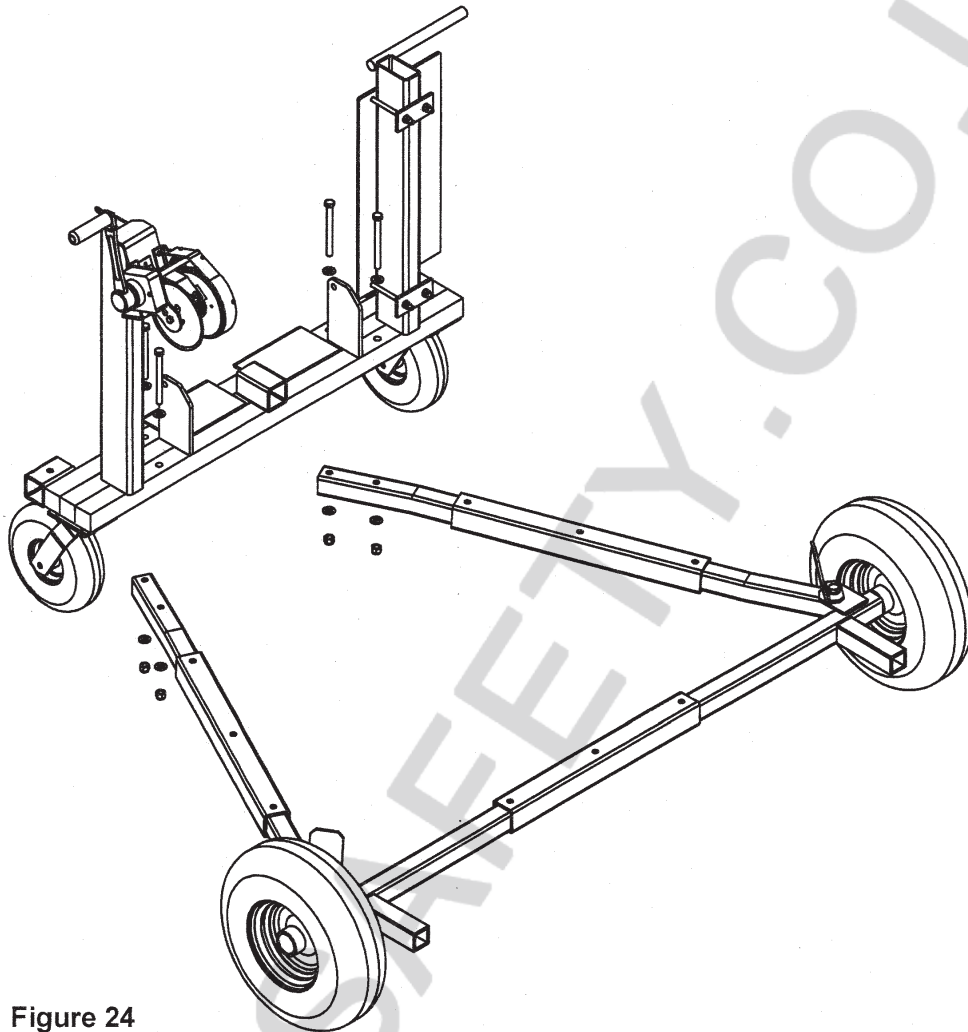

Figure 24
3. Assemble the base assembly and rear cross member as shown in Figure 24.